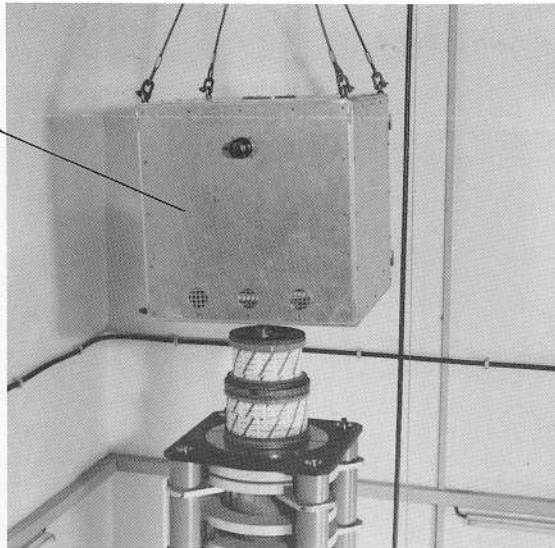

Fig. 40. Mounting the HV Connection Unit (TE 1263)
- (d) Hoist the HV connection unit (TE 1263) above the klystron (Fig. 40) and orient it to customer requirements.